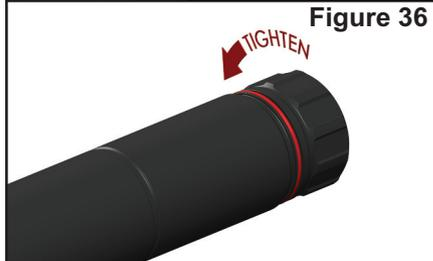

Figure 36
10. Install the front end cap in the front module. See Figure 36.